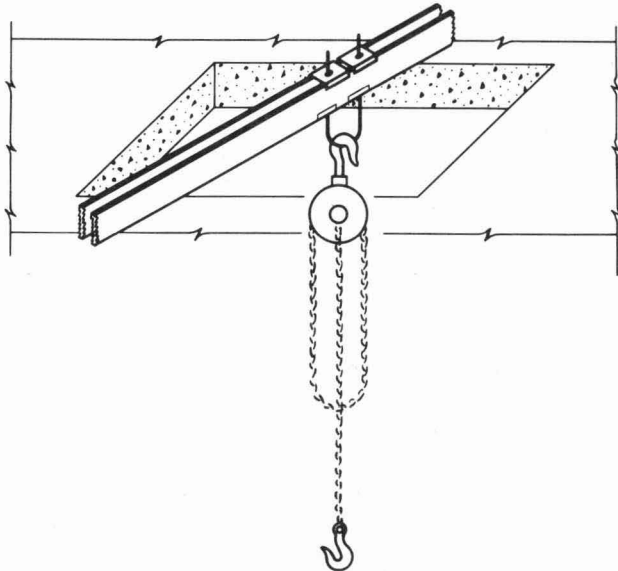

FIG. 10 JOB MADE HOISTING CENTER (Para. 3.6) ←
3.6 Another method of providing a hoisting center for raising vertically hung sections is shown in Figure 10. This consists of a hoist attached to an R-72068 "U" Bolt, supported by framing bars laid